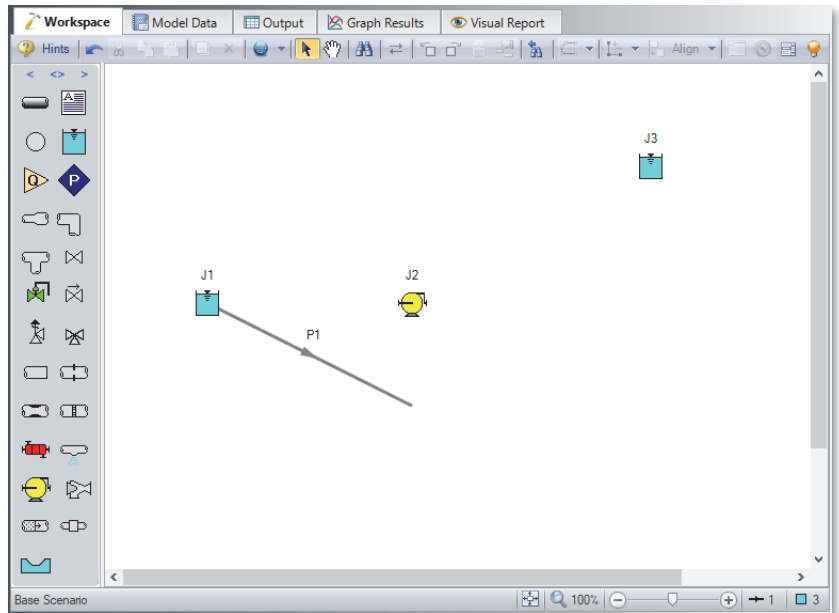
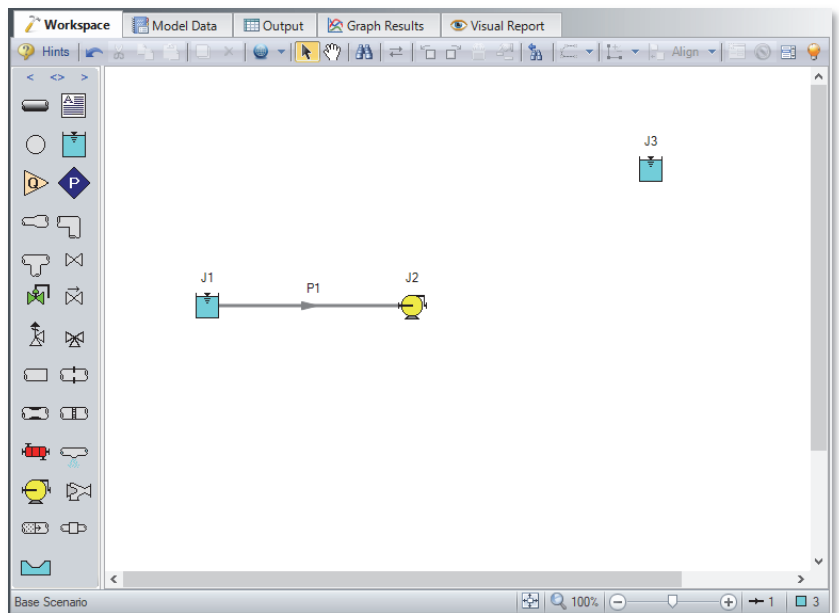

Figure 2.5d Walk through model with first pipe partially connected
Figure 2.5e Walk through model with first pipe connected
- **To place the pipe between J1 and J2**, use the mouse to grab the pipe in the center, drag it so that its left endpoint falls within the J1 Reservoir icon, then drop it there (see Figure 2.5d). Next, grab the right endpoint of the pipe and stretch the pipe, dragging it until the endpoint terminates within the J2 Pump icon (see Figure 2.5e).